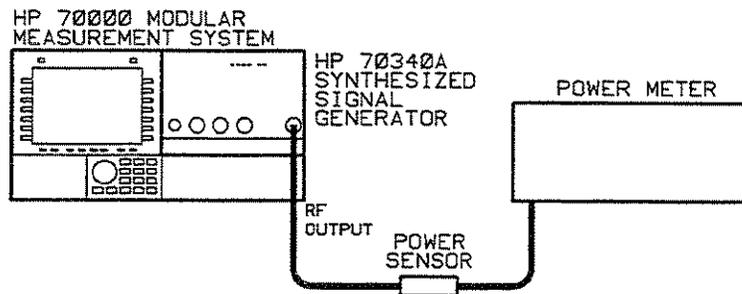

Figure 1-4. Vernier Level Accuracy and Flatness Test Setup
3. Set up the equipment as shown in Figure 1-4.